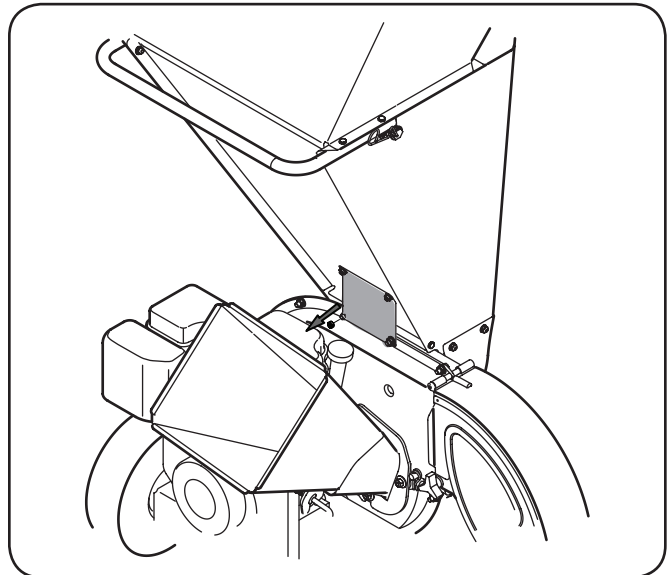

Figure 7-3
2. Remove the two flange nuts (and hex bolts) which secure the hopper support bracket to the impeller housing. Retain the hardware. See Figure 7-3.